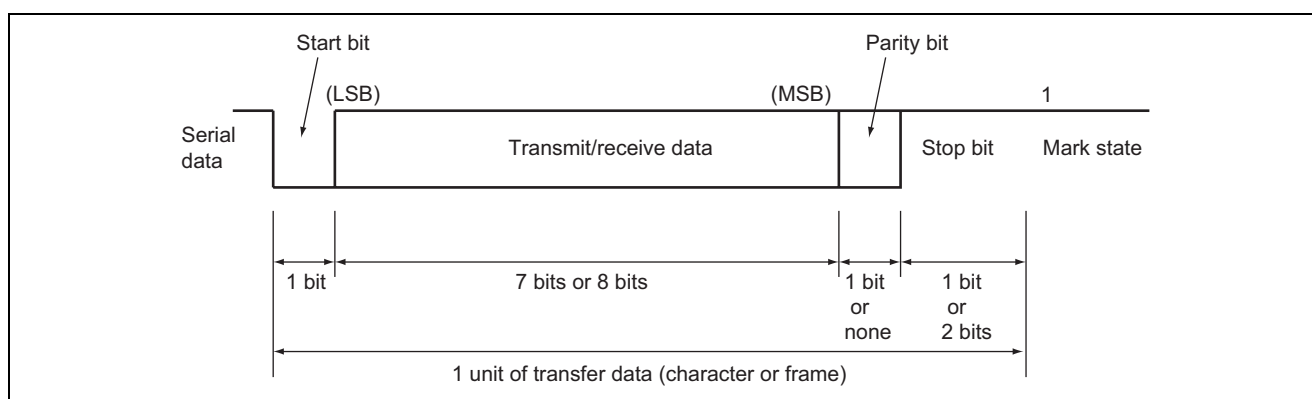

Figure 3 Data Format in Asynchronous Communication
- Figure 3 shows the general data transfer format in asynchronous communication. In asynchronous communication, the communication line is normally in the mark state (high level). SCI3 monitors the communication line and when it detects a space (low level), identifies this as a start bit and begins serial data communication.